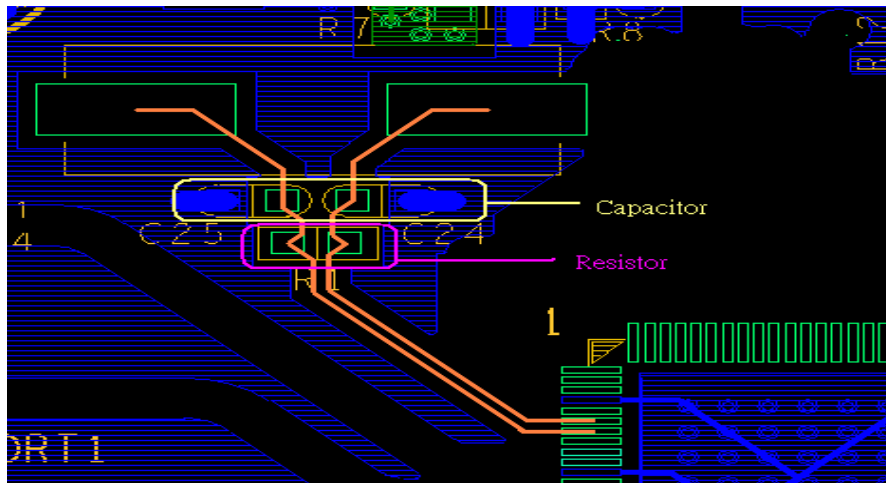

Figure 2.12
2. Keep the distance between crystal and the IC less than 1cm to avoid triggering high frequency oscillation on PCB. If over 1cm is unavoidable in the design, place the capacitors and the resistor as close as possible to the IC. Recommend less than 1cm if possible. And the resistor need be between the IC and the capacitor. See Fig. 2.12